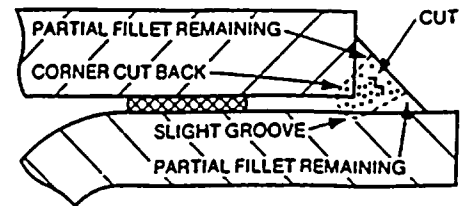

Figure 6. Typical section through gas-cut fillet weld.
2. Open the weld joint by cutting diagonally down through the center of the fillet, cutting slightly beyond the fusion line to include weld penetration as shown in Figure 6.